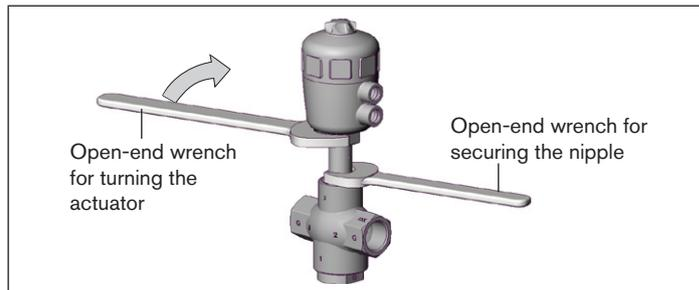

Fig. 10: Turning with open-end wrench
→ Place a suitable open-end wrench on the hexagon of the actuator (see “Fig. 10”).
- ▶ Turn the actuator **in the specified sense of direction** only (see “Fig. 10”).